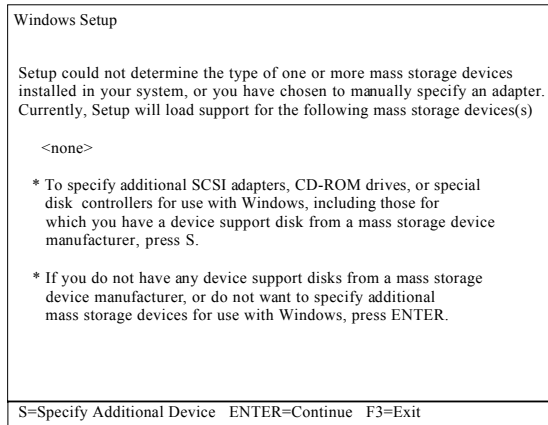

Figure 24
2. After pressing <F6>, wait until the screen as shown in Figure 24 appears. Insert the driver disk in your floppy disk drive and press <S> key. If the screen doesn't appear, it's possible that you did not press <F6> in time. Please repeat Step 1.